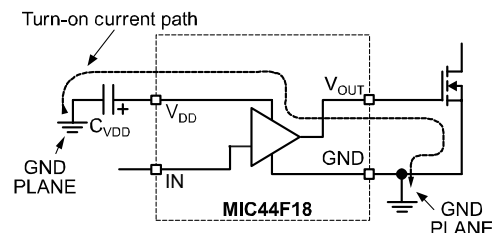

Figure 7. Critical Current Paths for High Driver Outputs
Figure 7 shows the critical current paths when the driver outputs go high and turn on the external MOSFETs. It also helps demonstrate the need for a low impedance ground plane. Charge needed to turn-on the MOSFET gates comes from the decoupling capacitors C_{VDD} . Current in the gate driver flows from C_{VDD} through the internal driver, into the MOSFET gate and out the source. The return connection back to the decoupling capacitor is made through the ground plane. Any inductance or resistance in
3. Trace out the high di/dt and dv/dt paths, as shown in Figures 7 and 8 and minimize etch length and loop area for these connections. Minimizing these parameters decreases the parasitic inductance and the radiated EMI generated by fast rise and fall times.